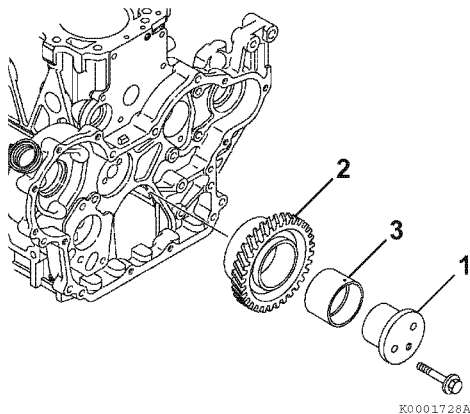

Figure 6-91
1. Remove the bolts from the idler gear shaft (1, **Figure 6-91**). Remove the idler gear shaft, idler gear (2, **Figure 6-91**) and bushing (3, **Figure 6-91**).